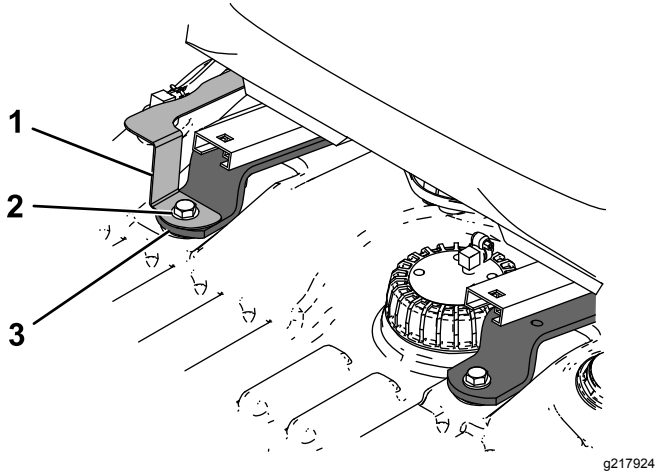

Figure 13
4. Secure the front of the seat brackets using 2 bolts (3/8 x 3 inches) and 2 washers (Figure 13).